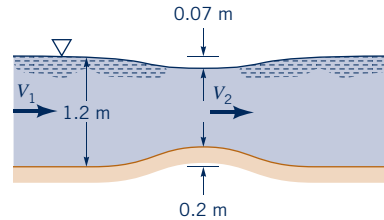

Figure P3.120
3.120 The flowrate in a water channel is sometimes determined by use of a device called a Venturi flume. As shown in Fig. P3.120, this device consists simply of a bump on the bottom of the channel. If the water surface dips a distance of 0.07 m for the conditions shown, what is the flowrate per width of the channel? Assume the velocity is uniform and viscous effects are negligible.